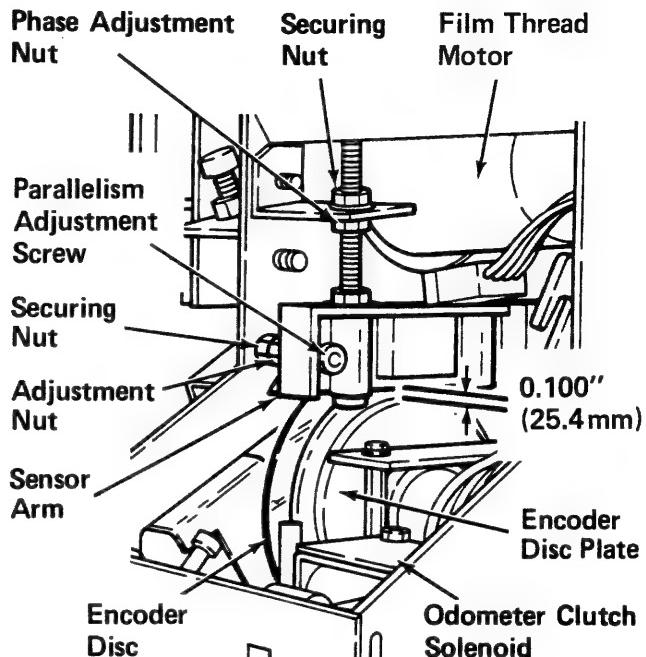
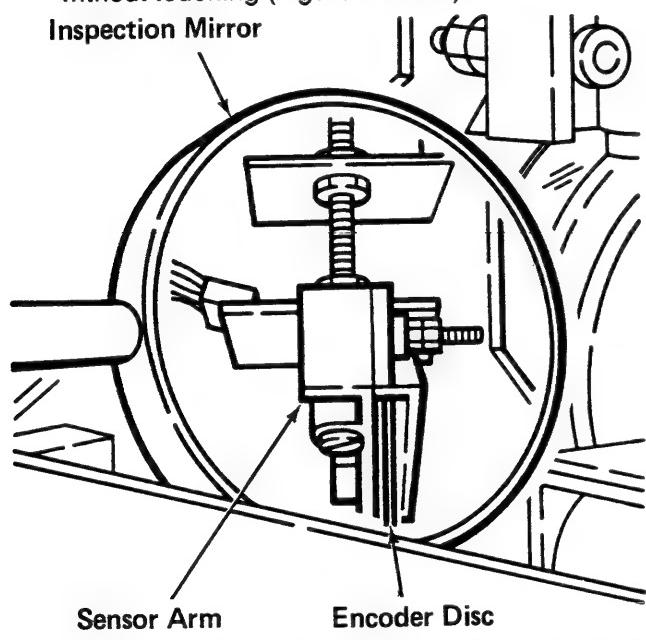
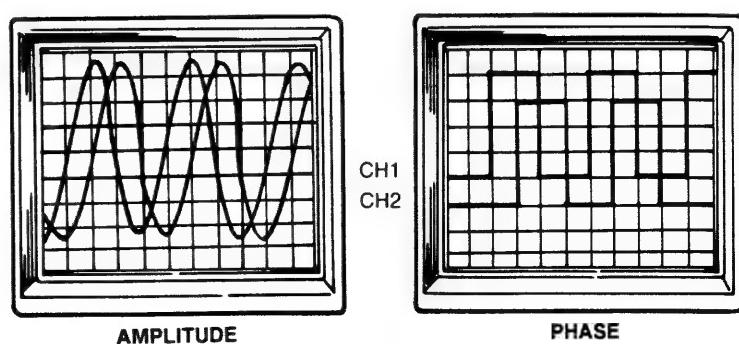

Figure 3-10.6A
Figure 3-10.6B
Figure 3-10.6F
does not wobble (Figure 3-10.6A). The Encoder Disk should not touch the odometer sensor.
1. Loosen the Securing Nut for the Phase Adjustment Screw (Figure 3-10.6A).
2. Loosen the Securing Nut for the Parallelism Adjustment Screw and, while holding the Adjustment Nut, turn the Parallelism Adjustment Screw (Figure 3-10.6A) so that the Encoder Disc is parallel with the Odometer Sensor Slot and as close to the rear as possible without touching (Figure 3-10.6B).
13. While holding the Lock Nut, turn the Amplitude Adjustment Screw, (Figure 3-10.6E) for a greater than 3 Vpp display on the scope (Figure 3-10.6F) and no distortion at top and bottom of sine wave.
4. While holding the Securing Nut, turn the Phase Adjustment Nut (Figure 3-10.6A) for a 90° phase relationship (Figure 3-10.6F).
8. Turn the Film Speed Control fully clockwise. Observe on the scope that the square waves should NEVER be in phase. See Figure 3-10.6F.